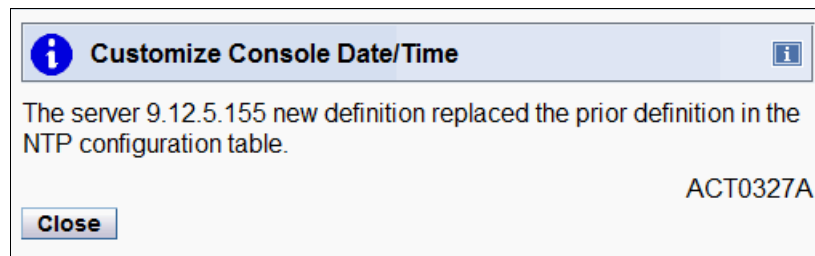

Figure 9-20 HMC: Customize Console Date and Time Completed message for adding NTP with Authentication
11. The next window (Figure 9-20) indicates that the modification is completed. Click **Close**.